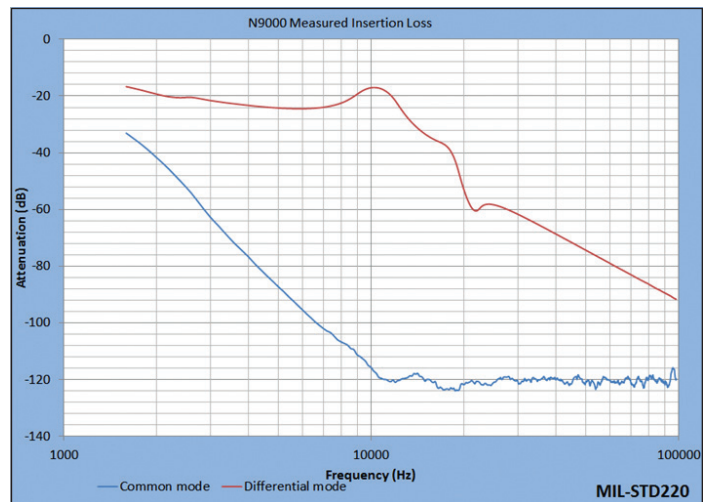

Figure 14: Comparison between CM and DM performance of an asymmetric filter
This can be seen clearly when measuring an asymmetric filter for symmetric (DM) and asymmetric (CM) performance as in Figure 14.